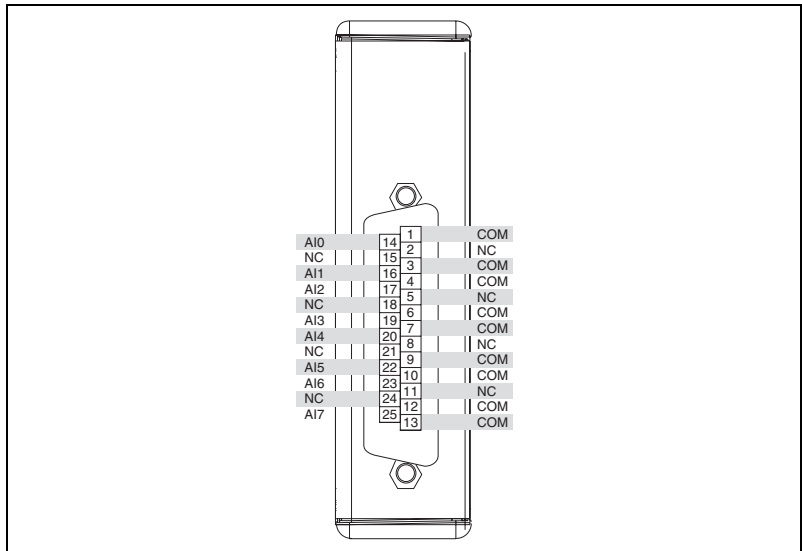

Figure 1. Pin Assignments for the NI 9201/9221 with DSUB
1. Connect the positive output of the calibrator to AI0 and the negative output of the calibrator to COM. If the calibrator has a guard connection, connect that terminal to COM as well. Refer to Table 2 for the terminal assignments of the NI 9201/9221 with screw terminal. Refer to Figure 1 for the pin assignments of the NI 9201/9221 with DSUB.